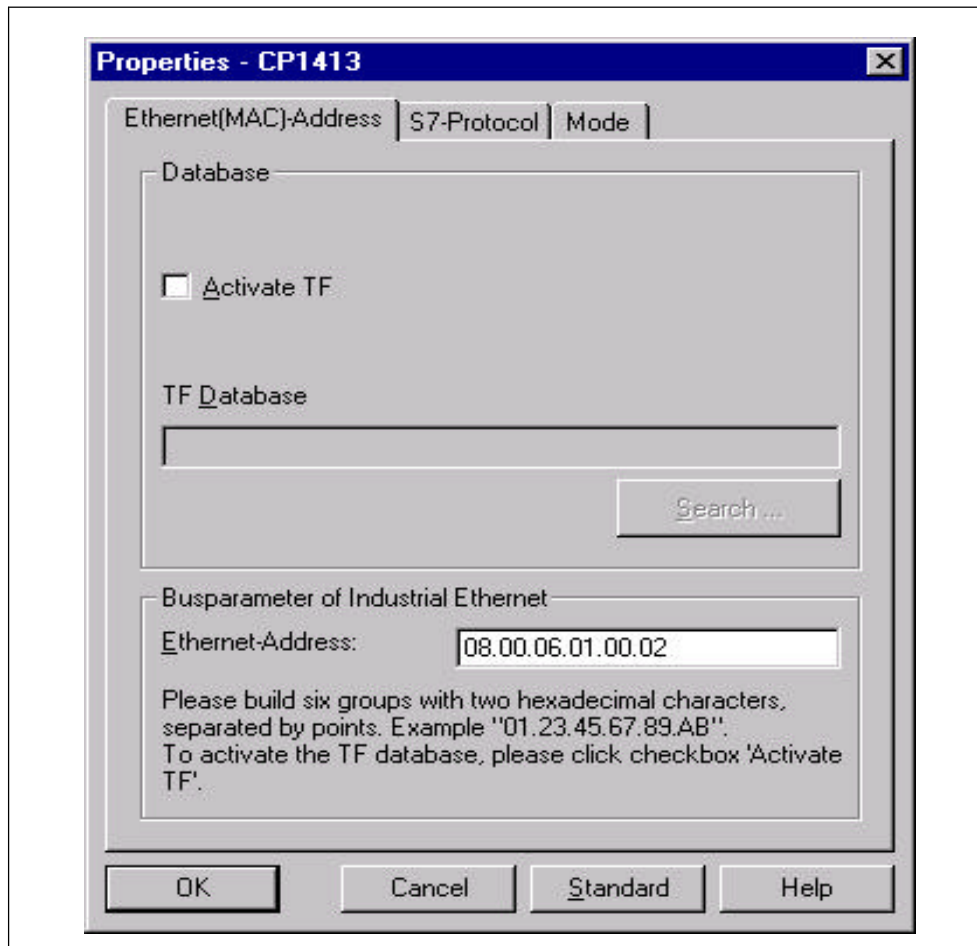

Figure 2-11 Setting the CP Properties
5. Under "Properties" carry out the settings for the corresponding user CP as shown in Figure 2-11.